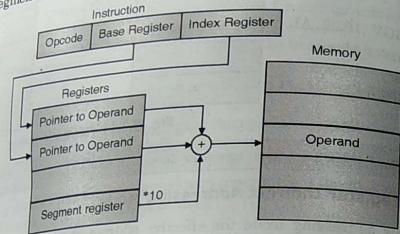

Fig. 12.2.6 : Based indexed addressing mode
12.2.3(C) Based Indexed Addressing Mode
- In this addressing mode, the EA is sum of a base register and an index register, both of which are specified by the instruction. The sum is added to the segment register * 10 H to give effective address as shown in Fig. 12.2.6.